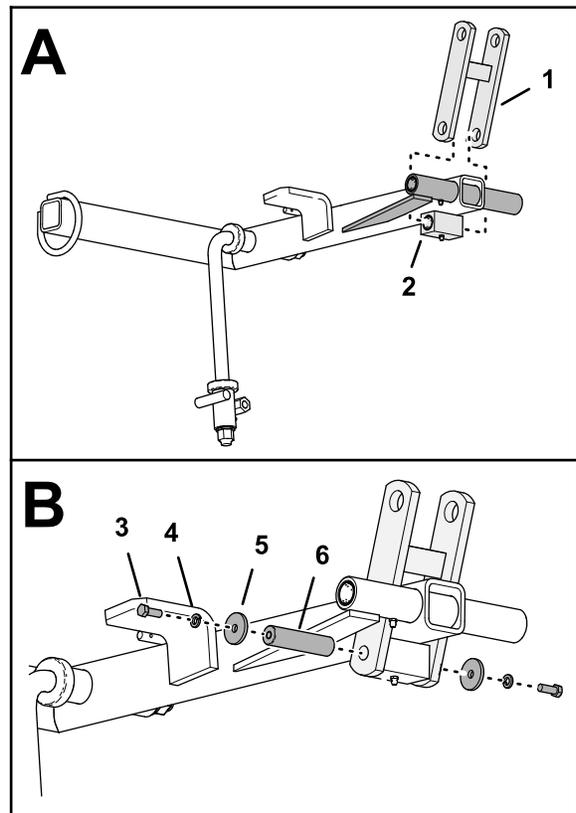

Figure 12
1. Align the holes in the link with the hole in the bushing housing of the lift arm as shown in Figure 12.
2. Assemble the shaft—25 x 102 mm (1 x 4 inches) through the holes in the link and the bushing housing (Figure 12).
3. Secure the shaft to the link with (Figure 12) 2 cap screws (3/8 x 1 inch), 2 lock washers (3/8 inch), and 2 washers (3/8 x 1-5/8 inches).